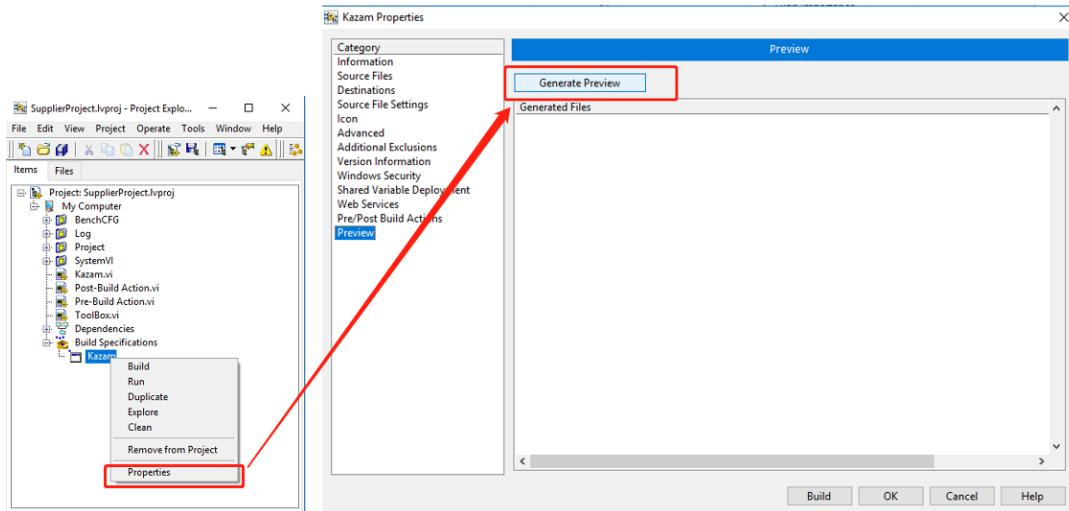

Figure 44
8. Preview your project before build, if there are any errors here, it will tell you, as Figure 44